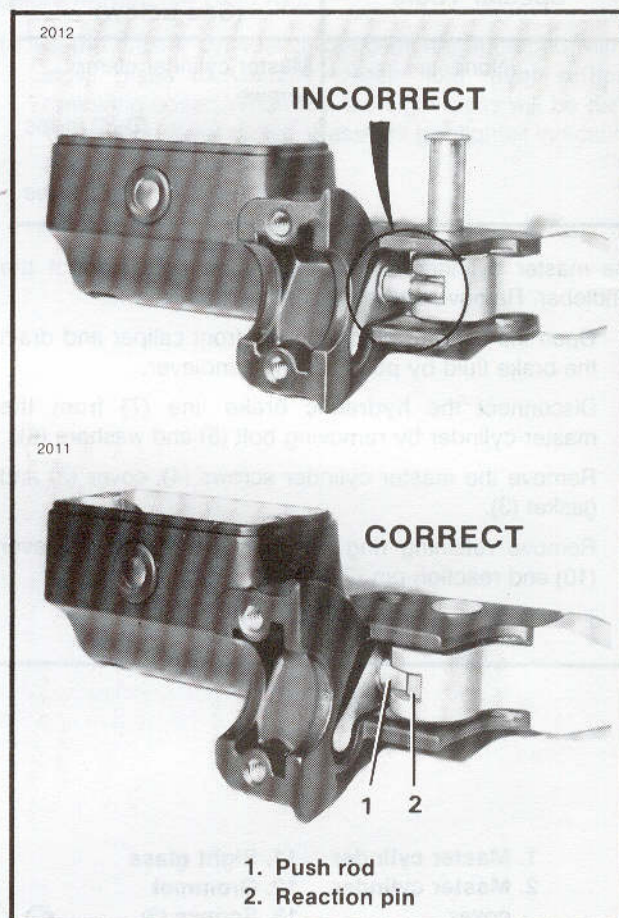

Figure 2-38. Hand Lever Assembly
See Figure 2-38. The push rod and switch actuator (1) must be inserted into hole in reaction pin (2). There must not be any binding of the hand lever when depressed. If hand lever does bind, push rod and switch assembly are hitting the inside master cylinder casting wall.